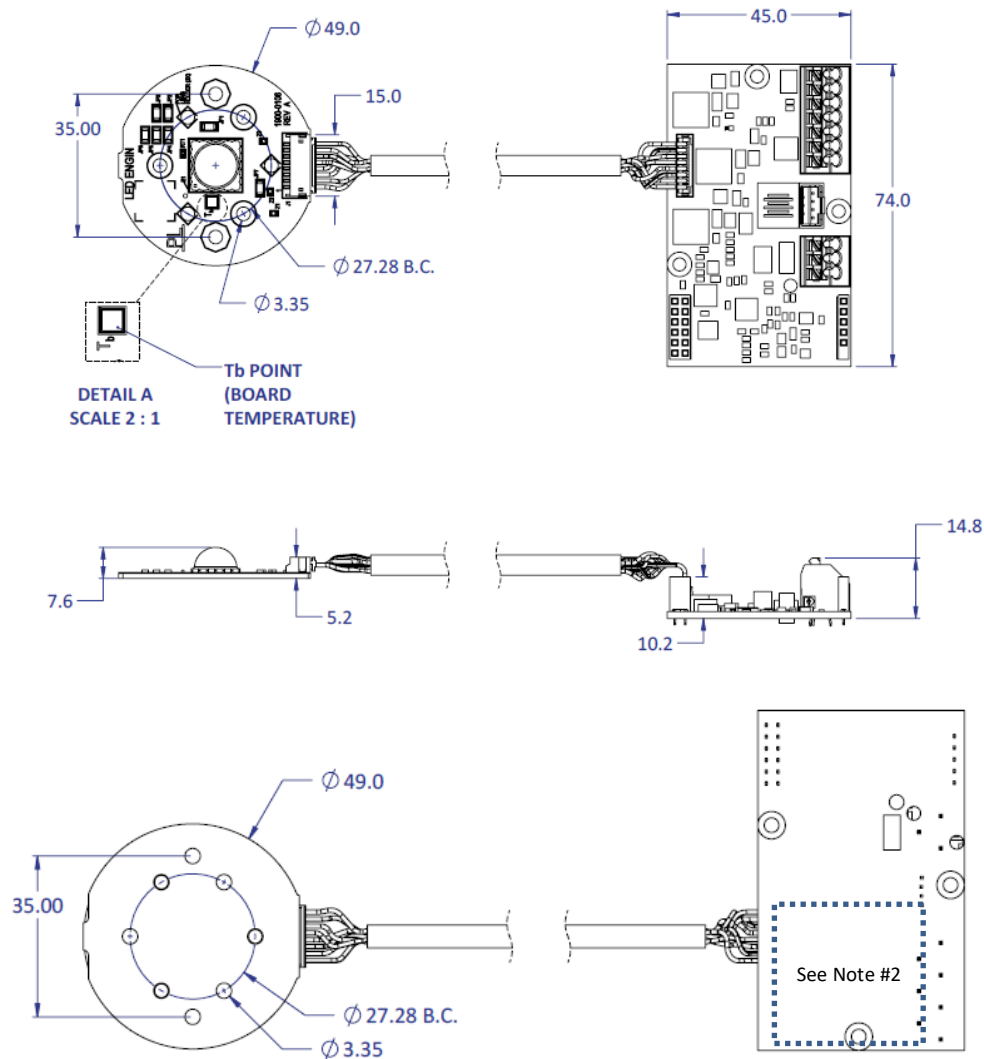
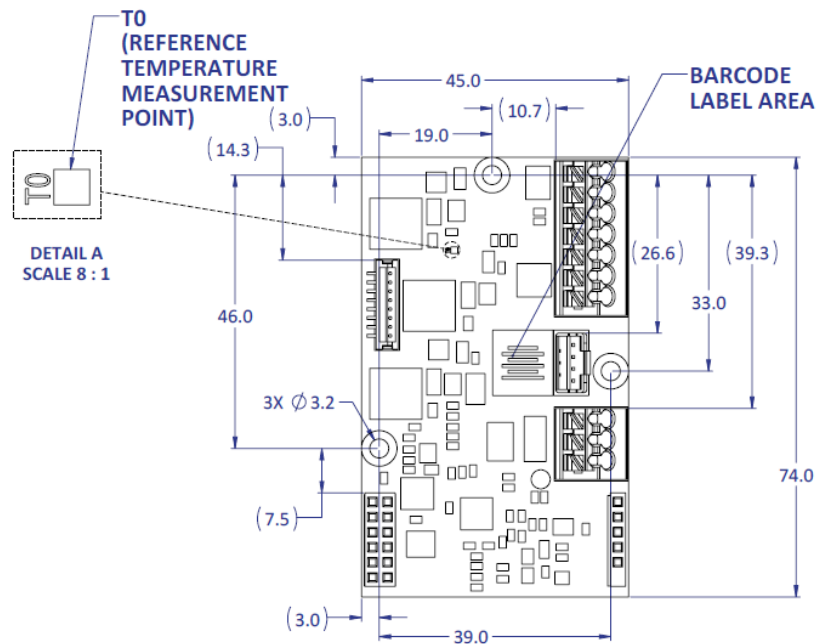

Figure 13: Mechanical dimensions of LuxiTune light engine – without secondary lens
Figure 16: Temperature reference point T_0 on 0-10V driver board
4. The temperature measurement point on the MCPCB, T_b is located next to the LED emitter and the other reference point, T_0 is marked on the 0-10V driver board. See figures 13 and 16. T_b should not exceed 75°C and T_0 should not exceed 85°C .
The LuxiTune 0-10V driver board also has a temperature reference point T_0 marked on it as shown in Fig 16. It is recommended that the maximum value of T_0 not exceed 85°C when the light engine is integrated into a fixture and is in regular use. As designed and tested, the 0-10V driver board for the LTP 2000lm unit is recommended to be used with a heat spreader to maintain $T_0 < 85^\circ\text{C}$ in operation. The suggested location of the heat spreader is shown in Figures 13 and 14, Note 2.